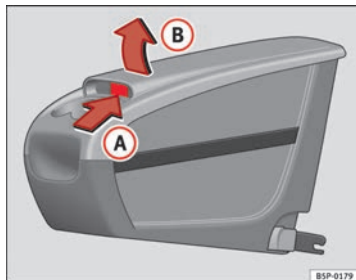

Fig. 112 Mobile storage compartment. Opening
- Lift the cover (B), in area (A) ⇒ Fig. 112.